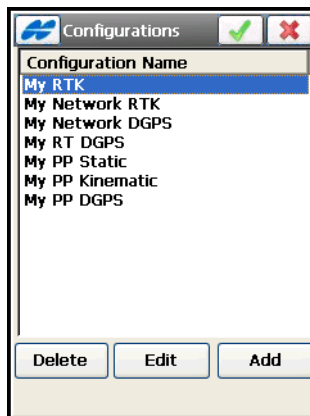

Figure 4-3. Create/Edit a Configuration
The *Configurations* screen displays. The *Configurations* screen contains a list of available GPS+ configurations (Figure 4-3).
1. To create a new configuration, tap the **Add** button (Figure 4-3).